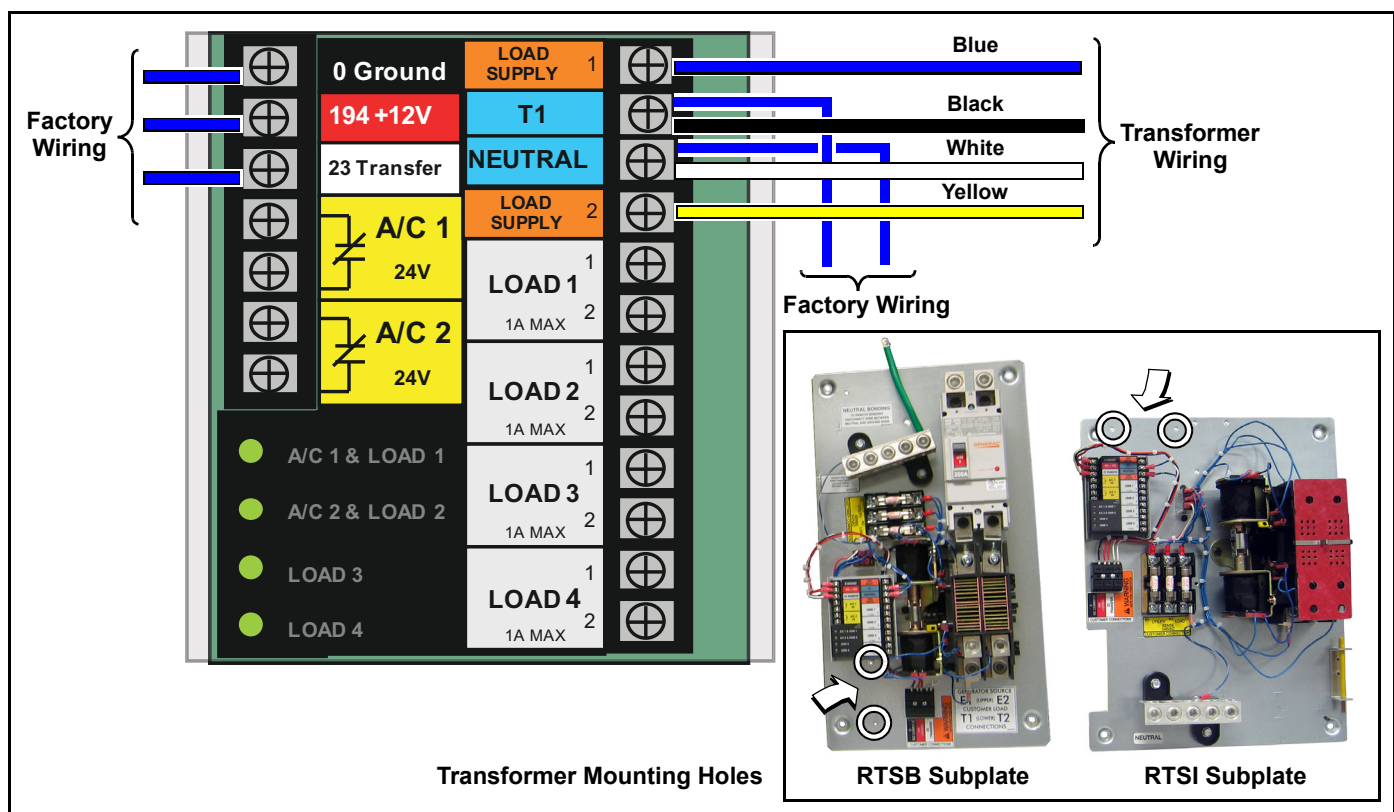

Figure 5-3. Connect Transformer Wiring
2. Mount the transformer using the existing holes in the subplate. See inset of Figure 5-3.
3. See Figure 5-3. Install transformer wire connections to the OPCB terminal strip as follows: